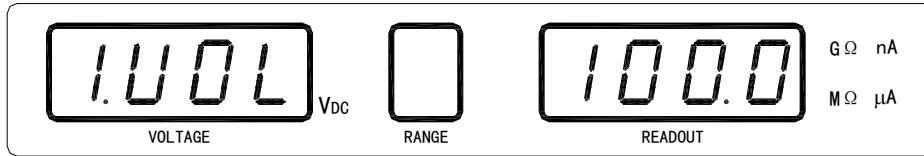

Figure 3-3 Main Setup Menu
- 1) Press **SET/ENTER** key in the discharge status to enter the main setup menu as shown in the following figure 3-3.